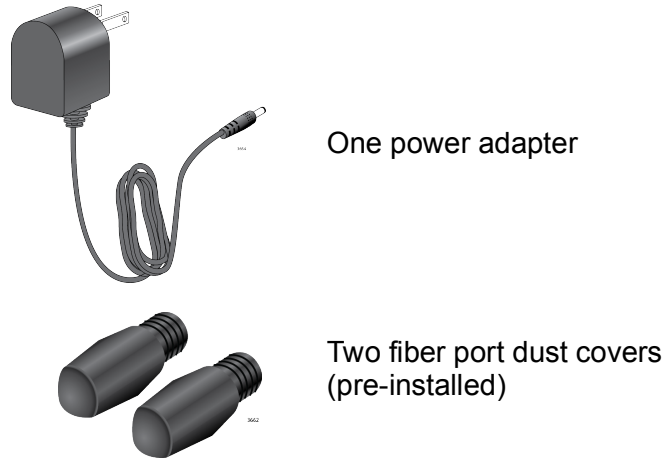

Figure 27. MMC2000/200/ST Series and AT-MMC200LX/ST Shipping Package Contents
- Figure 27 shows shipping container items for the MMC2000/200/ST series and AT-MMC200/LX/ST media converters.